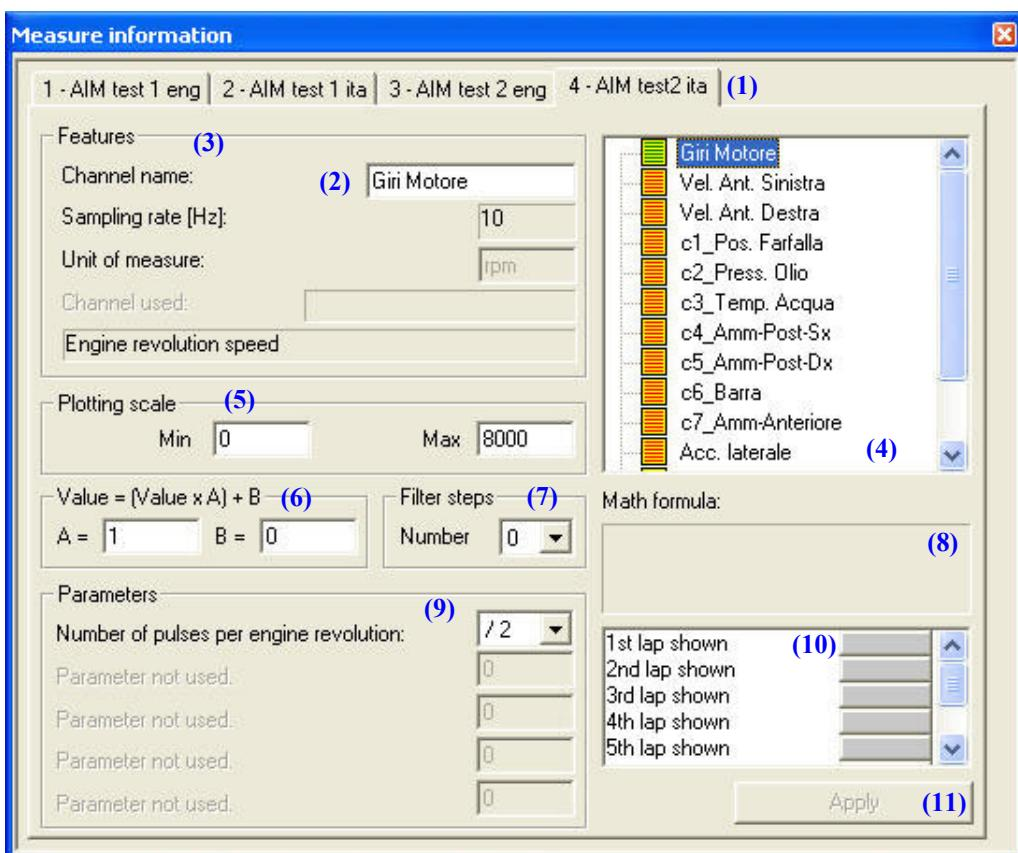

Fig. 4.8 – *Measure information* window
The layout of the view for the *Measure Information* window is shown in Figure 4.8.
- Channel features (3), such as sampling frequency and unit of measure;
- Channels list (4): to select a channel from the list, please left click on the desired one;
- Plotting scale toolbox (5), used to change a channel’s plotting scale: see chapter 4.6.1 for further information;
- Graph shifting/amplifying toolbox (6): see chapter 4.6.2 for further information;
- Filter steps toolbox (7): used when sampled data are very noisy (see chapter 4.6.3);
- Math formula window (8): in this window it is shown the mathematic formula used to calculate a math channel. This window can not be edited; to modify a math channel formula, please refer to chapter 8;
- Parameters window (9): in this window it is shown the parameters used to convert the sampled data into easily comprehensible information. **It is recommended not to modify such values**;
- Shown laps colour (10): this toolbar shows 8 coloured pushbuttons which are used to set the graph colour. Right click on the desired shown lap to enter the colour management window (see chapter 4.7 for further information).
- The “Apply” pushbutton (11): this button is used to apply the changes to the channel’s features.
The plotting scale toolbar, shown in Figure 4.8 as (5), is used to modify the vertical scale of a graph. If you wish to modify the scale, please enter the desired number in the proper box: please, enter the new scale’s minimum value inside the “Min” box, while insert the maximum value inside the “Max” box.
To shift and/or amplify a graph, please use the “Value = (Value*A)+B” option, shown in Figure 4.8 as (6). In this math formula, A represents the “amplify factor”, while B represents the “shift factor”. These two values are set, as a default, to 1 (amplify factor) and 0 (shift factor).
When sampled data are very noisy, for example because of the sensor's cable has been installed near sources of electrical interference, and you wish to analyze them, it is suggested to use the “Filter” function, shown in Figure 4.8 as (7).